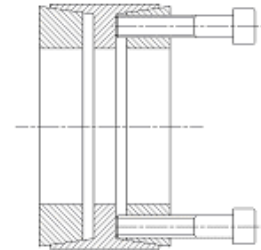

Fig. 2
9.2 Insert as much of the screws in the front inner ring them into the release holes, turning until they abut the flange of ring. (see Fig. 2)